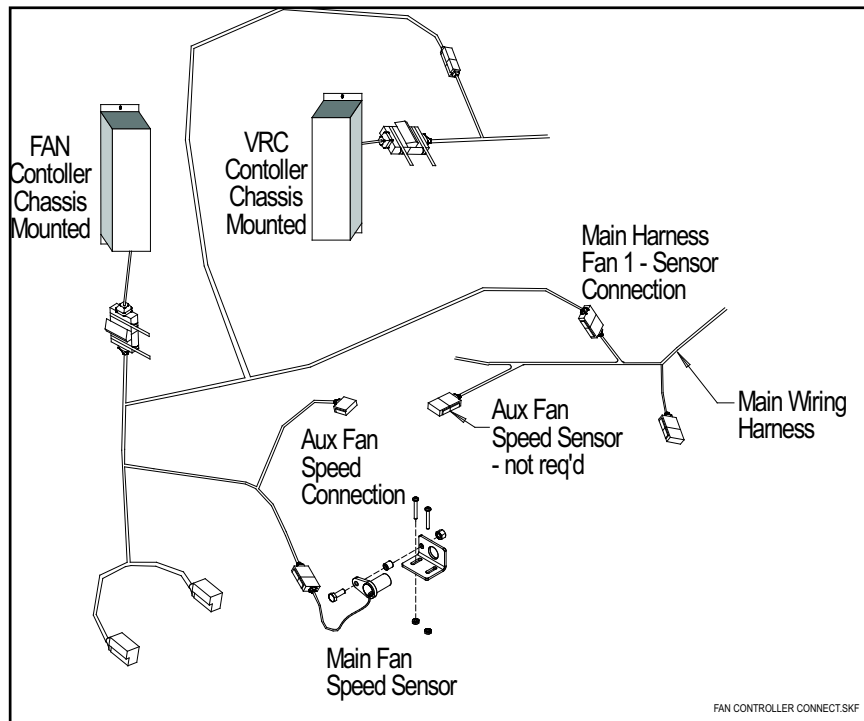

Figure 5.9 - FAN Controller connection to the Wiring Harness
- 8. If the fan controller is installed, connect the controller to the wiring harness when "Fan 1" is called for. The auxiliary connection on the main harness will not be required if the fan controller is installed. There is no connection for the Case Drain Pressure when the fan controller is installed. Refer to *Figure 5.9*.